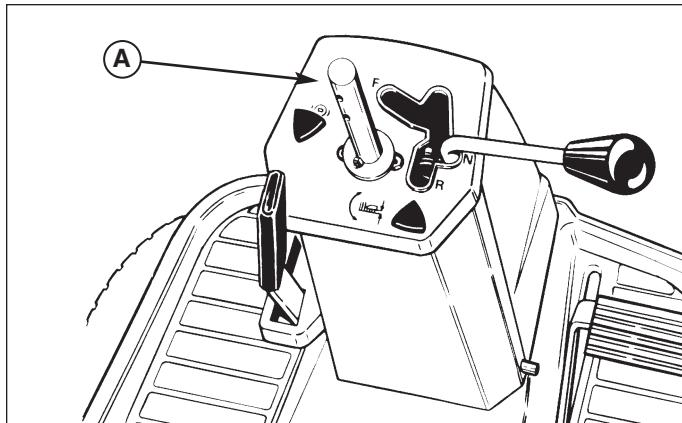

Figure 24. Steering Wheel Height Adjustment
1. Pull down on the rubber boot to expose the two holes in the steering shaft (A, Figure 24).